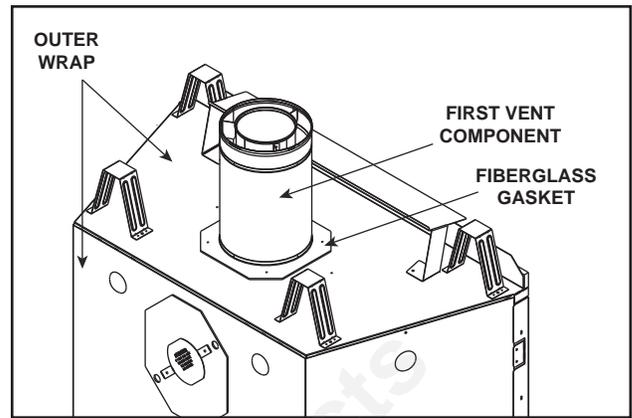

Figure 1.17 Fiberglass Gasket
- Make sure that the heater gasket supplied with the heater seals between the first flue component and the outer heater wrap (see Figure 1.17).